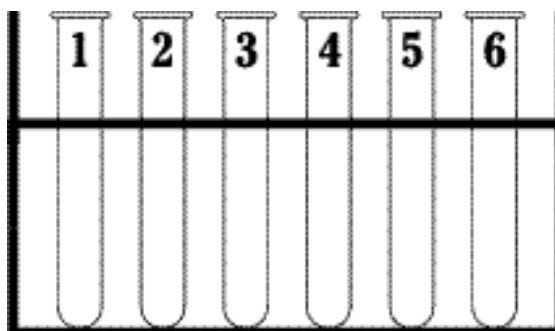

Figure 4.
7. Set up six test tubes in a test tube holder as in Figure 4. Label the test tubes 1 through 6 with a marker.